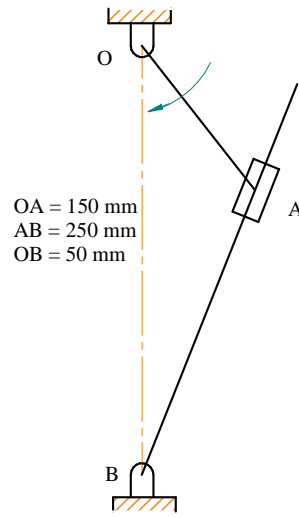

Fig.7b
- b) A quick return mechanism is as shown in Fig. 7b. Link 2 rotates uniformly at 20 rad/sec. Draw the acceleration diagram and determine the Coriolis acceleration.